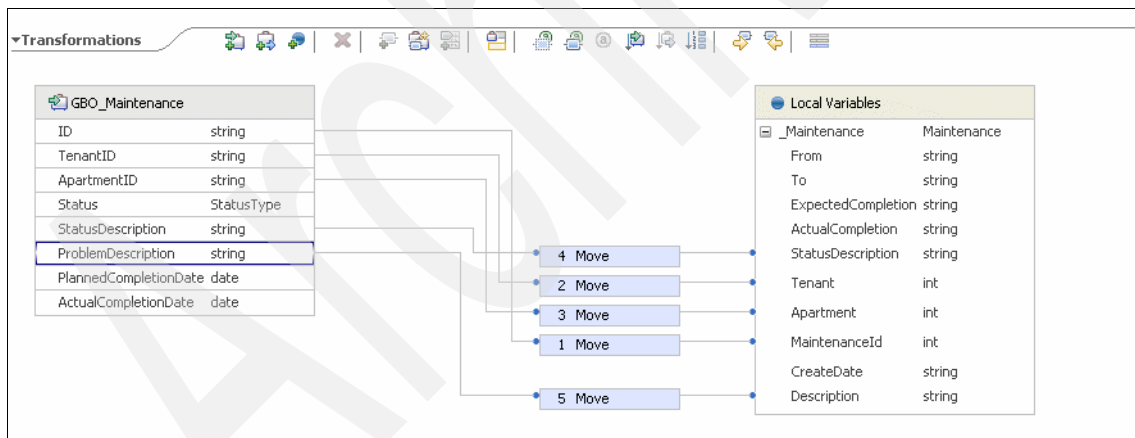

Figure 2-26 Move transformations
7. Complete the other move transformations, as shown in Figure 2-26.